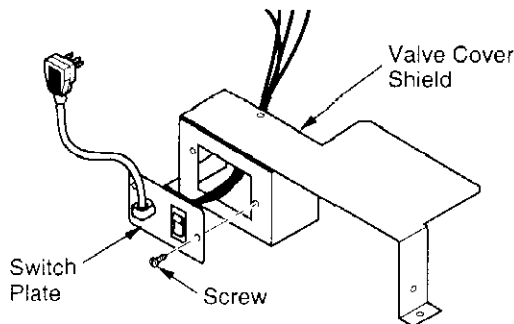

Figure 25- Installing Switch Plate to Valve Cover Shield
- Install the switch plate on the valve cover shield with 2 #10 screws provided (see Figure 25). Reinstall the valve cover shield. Route power cord out of the cabinet by inserting it through the bushing on the outer casing (see Figure 23, page 15). Plug fan kit into 120-Volt grounded power supply and test operation. *Note:* When switch is in the AUTO position, the fan will start after the fireplace has run for a few moments. The fan will continue to run for several moments after the fireplace has been turned off. When switch is in the ON position, the fan will run until turned to OFF. Reinstall upper louver assembly and hood if previously removed. (see Figure 21, page 14). Close lower louver door.